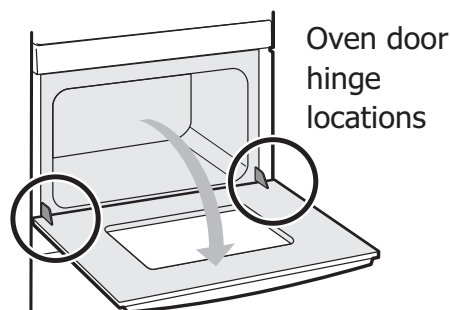

Figure 23: Door hinge location
3. Fully open the oven door, horizontal with floor (Figure 23).